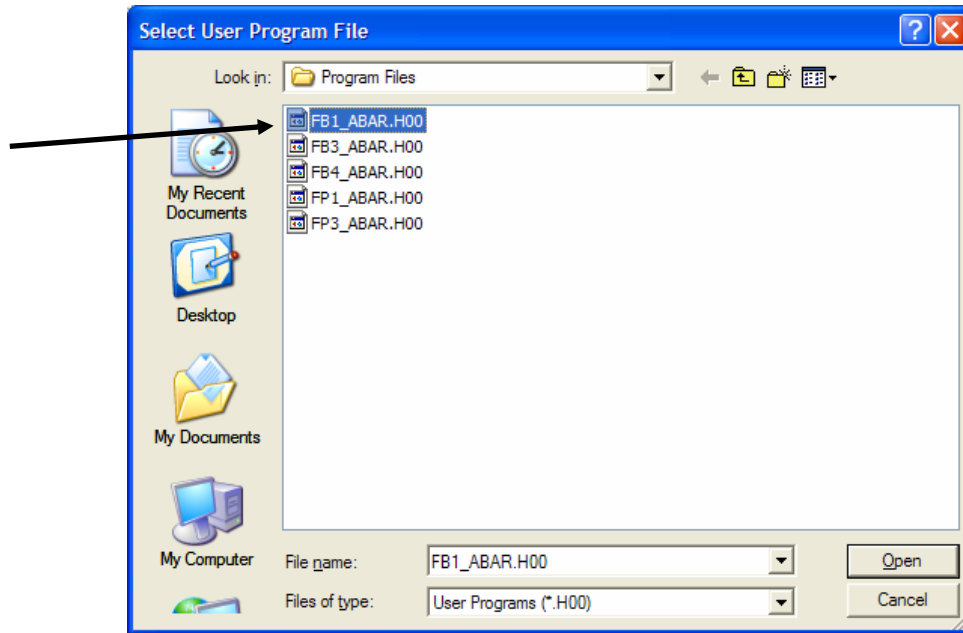

Figure 2. Select User Program File
- Click **Browse** in the Download User Program File frame. The Select User Program File screen displays (see Figure 2).
- Select the path and user program file to download from the CD-ROM. (Program files are typically located in the Program Files folder on the CD-ROM). As Figure 2 shows, the screen lists all valid user program files with the .H00 extension: